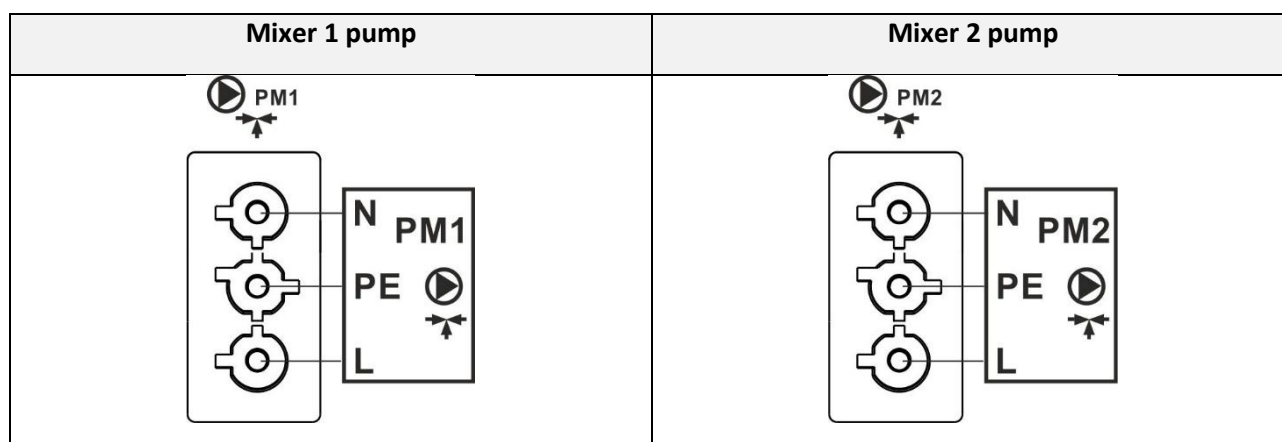

Figure 26. Wiring diagram of Mixer pumps
- connect the Mixer pump via the connector on the top of the switchboard to the controller (see Figure 26) according to the technical documentation of the pump manufacturer.